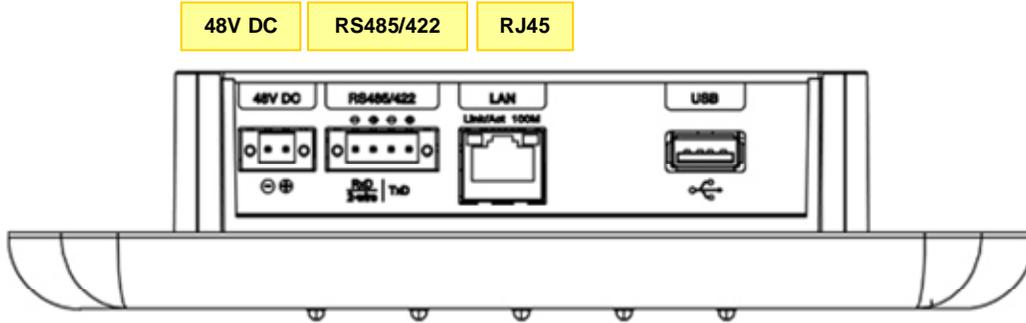

Figure 3: The Elspec G4100 Functional Display Unit – Rear View
Figure 3 shows the Elspec G4100 connectors as follows:
- F** Insert the 48VDC terminal block into the socket marked "48V DC" as shown above in Figure 3.